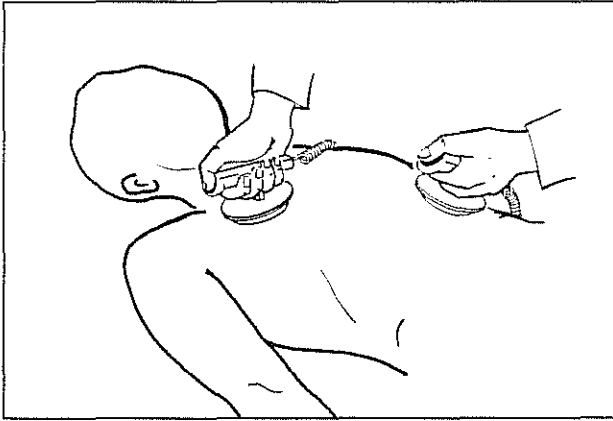

Figure 10
- * When triggering pulse press down the electrodes firmly onto the thorax (Figure 10).